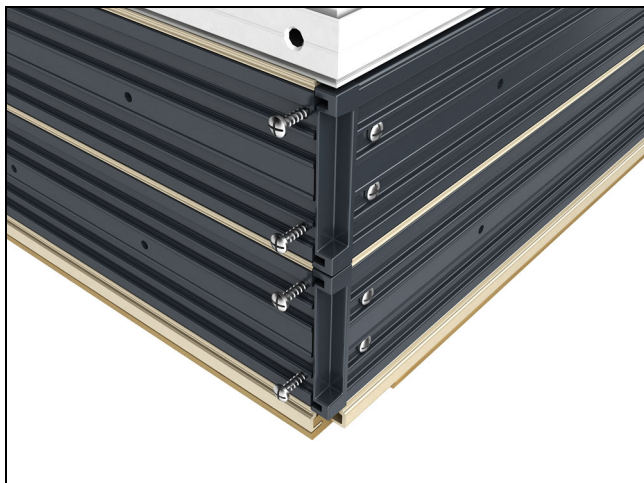

Figure 112
3. Fasten head jamb to side jamb using #8 x 1 1/4" pan head screws. See figure 112.